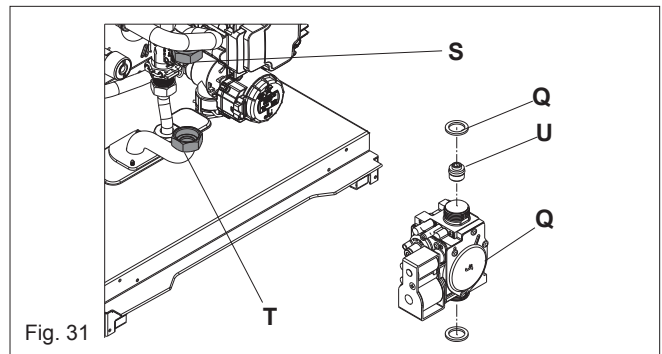

Fig. 31
7.19 GAS VALVE (FIG. 31)
7.19.1 INJECTOR (FIG. 31)